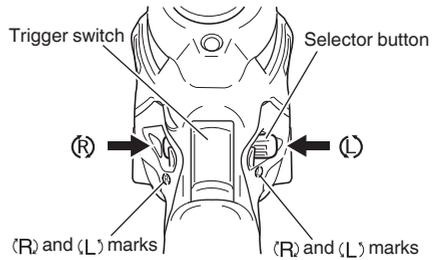

Fig. 5
The L-side of the selector button is pushed to turn the bit counterclockwise (See Fig. 5) (The (L) and (R) marks are provided on the body).